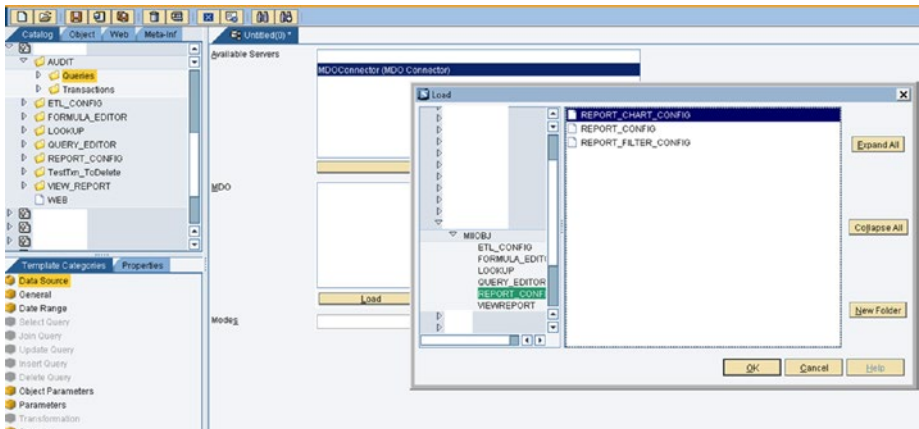

Figure 6-16. Loading the MDO object
3. Click on Load from the MDO section and select the MDO object to work on, as shown in Figure 6-16.